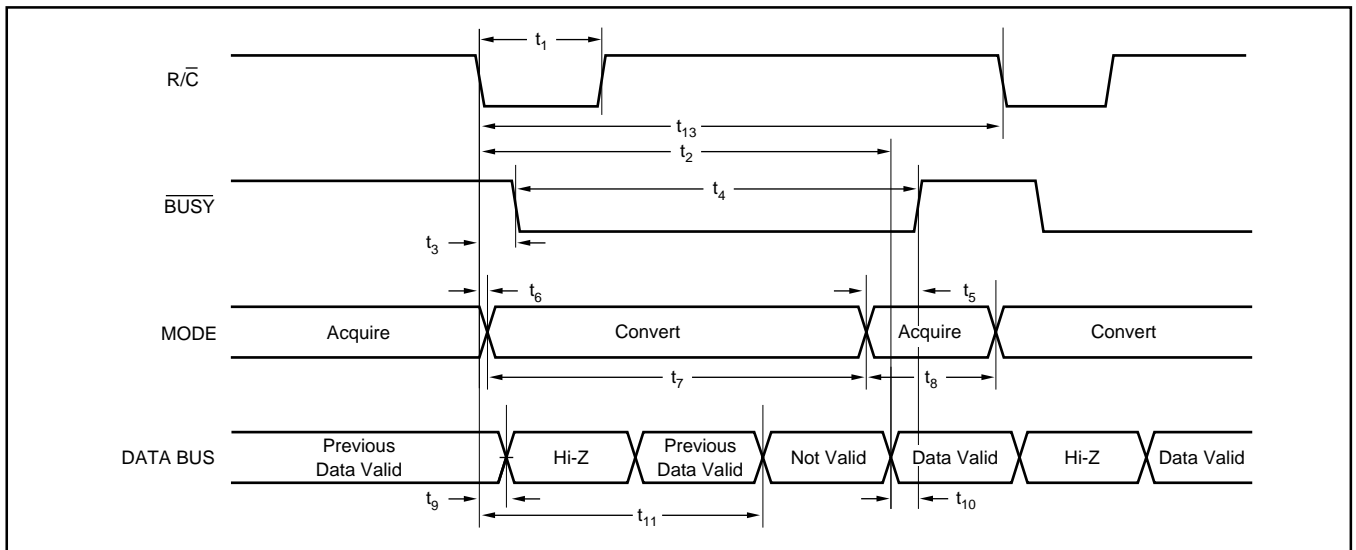

FIGURE 3. Conversion Timing with Outputs Enabled after Conversion (\overline{CS} Tied LOW).
Table II for a summary of \overline{CS} , $\overline{R/C}$, and \overline{BUSY} states and Figures 3 through 5 for timing diagrams.
NOTE: (1) See Figures 3 and 4 for constraints on data valid from conversion "n-1".
After conversion 'n' is completed and the output registers have been updated, \overline{BUSY} (pin 26) will go HIGH. Valid data from conversion 'n' will be available on D15-D0 (pins 6-13 and 15-22). \overline{BUSY} going HIGH can be used to latch the data. Refer to Table IV and Figures 3 to 5 for timing specifications.
After conversion 'n' has been initiated, valid data from conversion 'n-1' can be read and will be valid up to $7\mu s$ after the start of conversion 'n'. Do not attempt to read data from $7\mu s$ after the start of conversion 'n' until \overline{BUSY} (pin 26) goes HIGH; this may result in reading invalid data. Refer to Table IV and Figures 3 to 5 for timing specifications.
The number of control lines can be reduced by tying \overline{CS} LOW while using R/\overline{C} to initiate conversions and activate the output mode of the converter. See Figure 3.